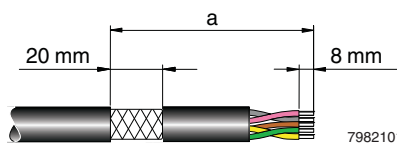

Figure 8-5 Connecting the shielded cable
- Strip approximately 20 mm off the outer sheath of the cable at the required distance from the end of the cable (a in Figure 8-5).